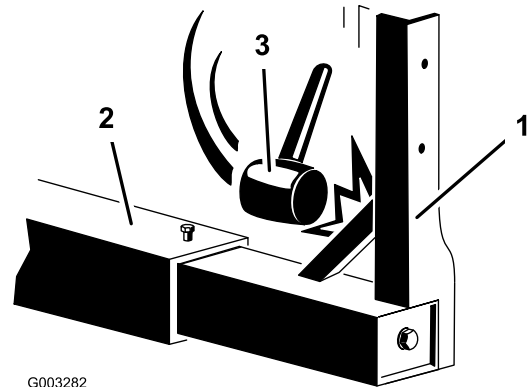

Figure 2
5. Using a plastic or rubber mallet, tap the upright to back the frame out (Figure 2). Repeat steps 4 and 5 until the boom frame uprights break free.